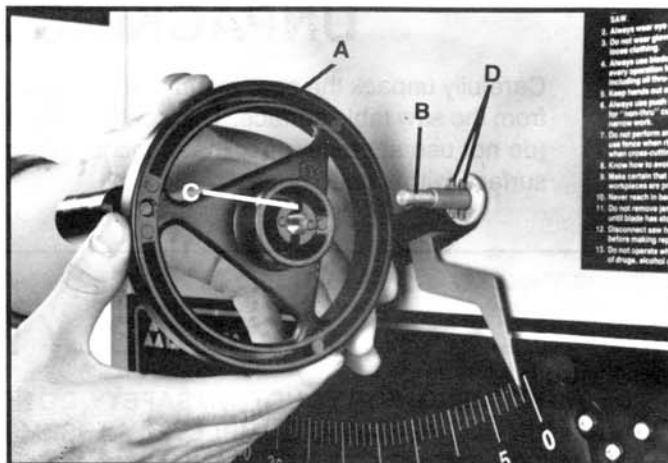

Fig. 6
1. Assemble the blade raising handwheel (A) Fig. 6, to the blade raising screw (B) making sure the slots (C) in the hub of the handwheel are engaged with the roll pins (D) on the raising screw shaft.